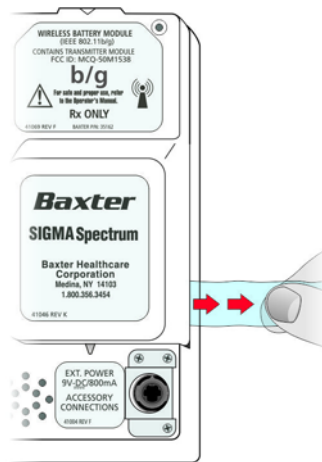

Figure 8. Battery Tab.
4. A battery tab isolates the battery voltage from the Pump during transportation and distribution. Remove the tab prior to charging the Pump's battery or operating the Pump. To remove the battery tab, pull the tab away from the Battery pocket. See Figure 8.